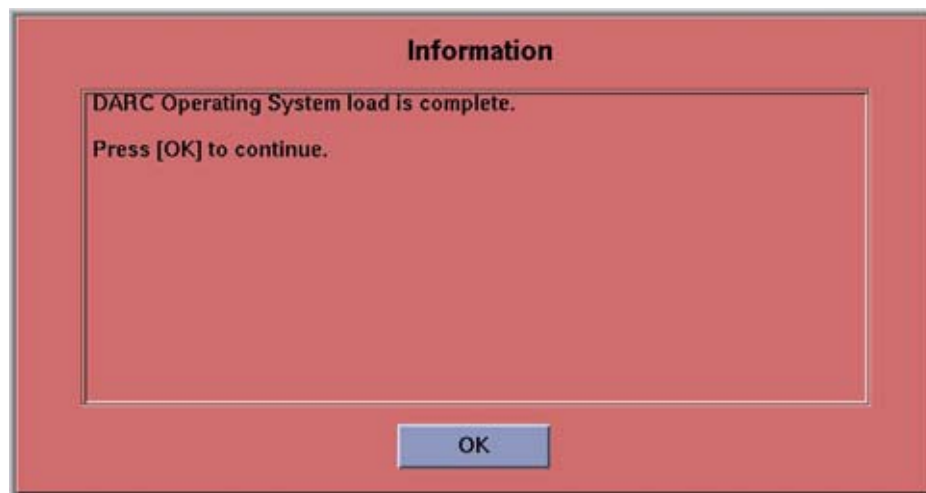

Figure 8-11 DARC OS Load Complete Pop-up Window
- 8.) The DARC OS 'Load Window' should disappear when the load has completed successfully. An information window should appear. See Figure 8-11.